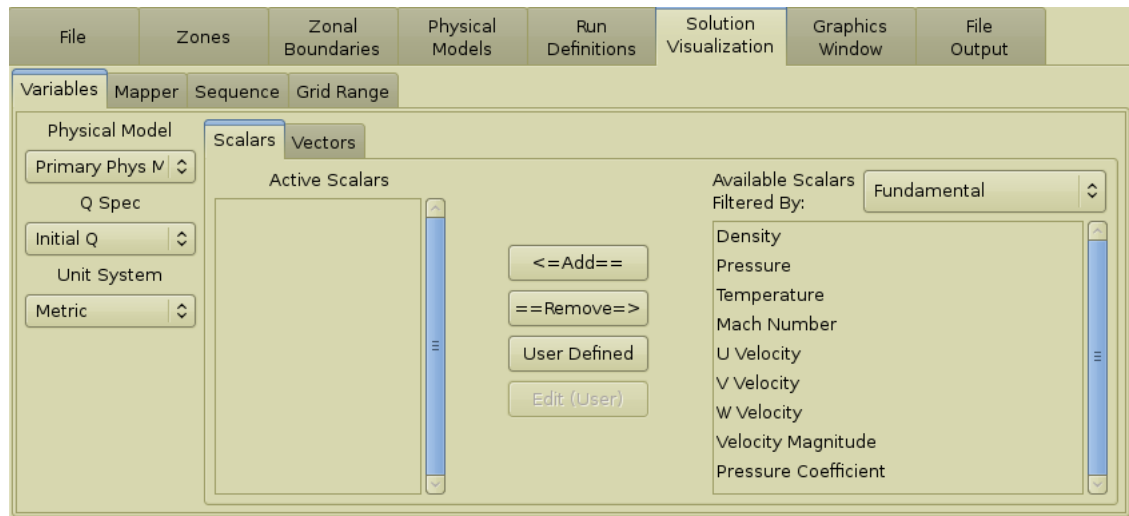

Figure 16: The **Solution Visualization** frame.
**Symmetry** Visualization Data Folder is selected, and you will see the **Solution Visualization** frame as depicted in Fig. 16 on pg. 30.